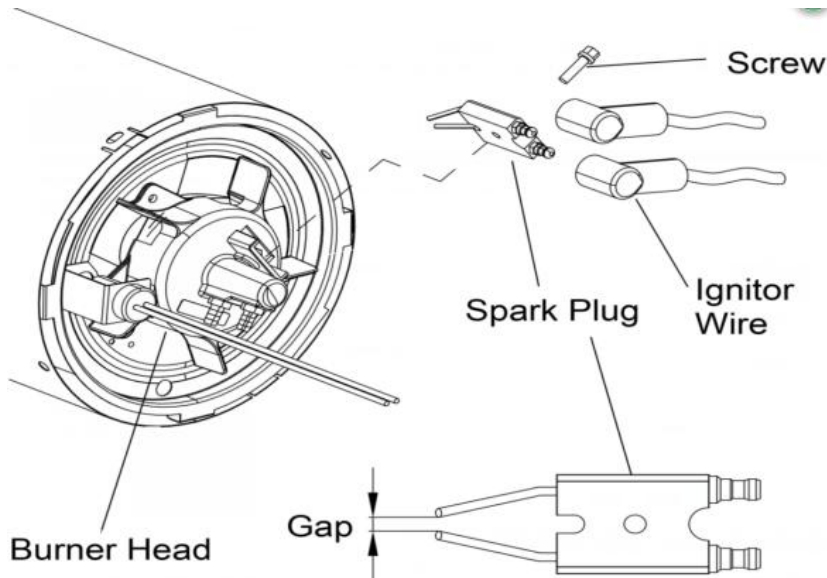

Figure 11. Spark plug Replacement
- 4) To replace, push the drain head fully into the drain hole and secure by pushing the seal cap fully into the head hole (see Figure 11)